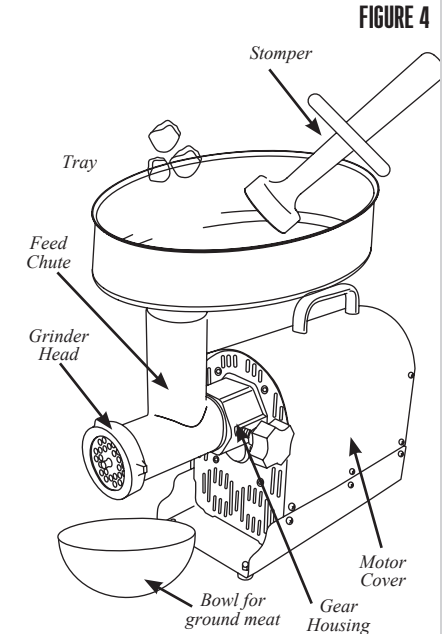

FIGURE 4
6. Place a dish or bowl to collect the ground meat at the end of the Grinder Head (Figure 4).